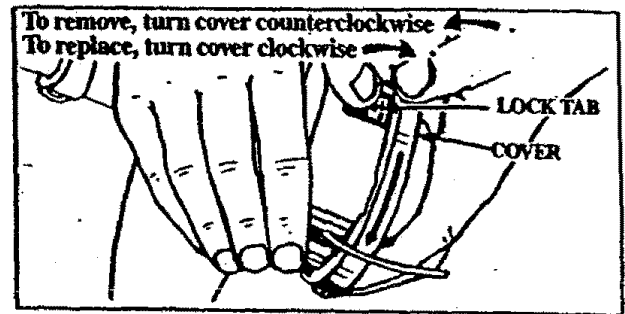

Figure 20
- Turn Cover clockwise. Figure 20.